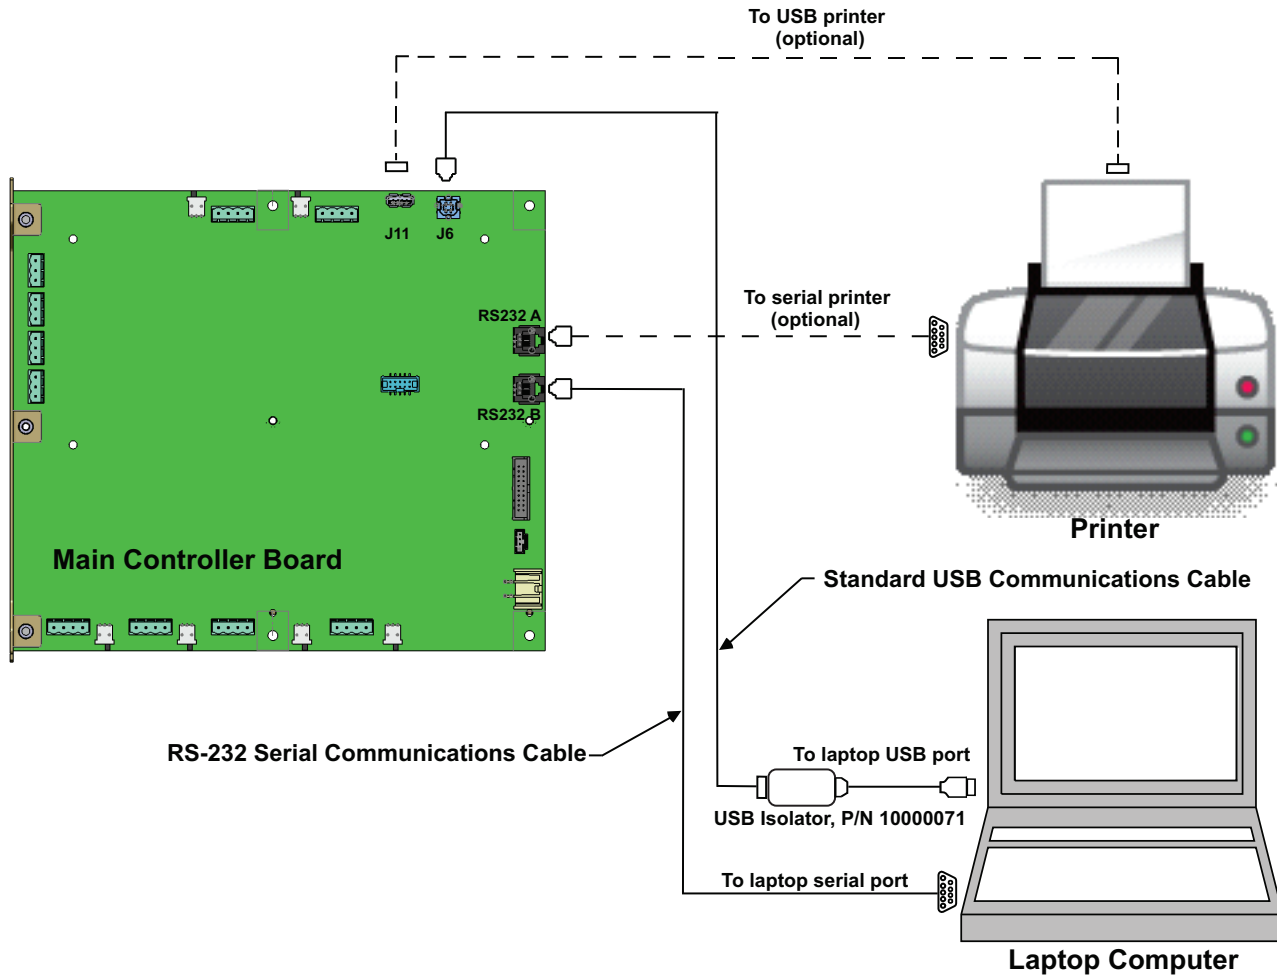

Figure 2-38. Laptop/Remote Computer and Optional Printer Connections to MCB
Figure 2-38 illustrates how to connect a laptop, remote computer and/or printer with either a USB or RS232 communications cable. Note that printers and computers must be located within 20 ft. of the control unit (in the same room). A tractor-feed printer is recommended for continuous printing of event logs.
- A USB Isolator must be used in series with the USB cable when connecting to port J6 as shown in Figure 2-38. This connection is typically used when sending or receiving information between the panel and a PC running the panel configuration software. Kidde Fire Systems has tested and recommends the USB Isolator P/N 10000071.